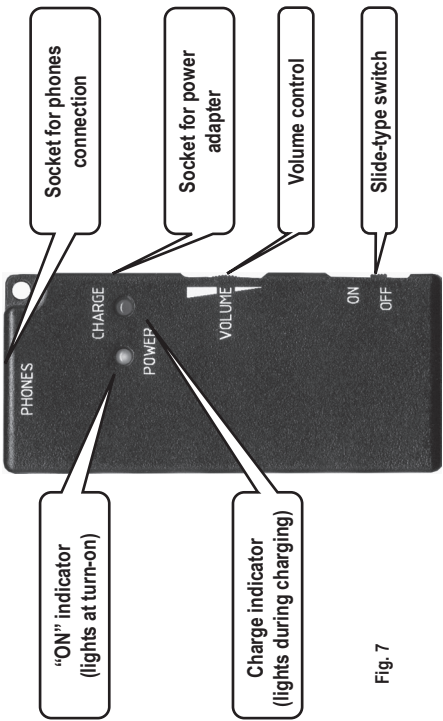

Fig. 7
5.6. Wireless telephones consist of a receiving device and earphones. Appearance of the receiving device and position of control units are shown in Fig.7